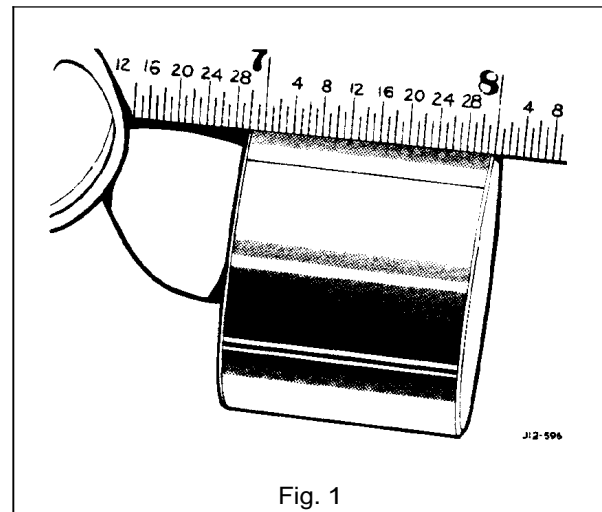

Fig. 1
- Refit the original shims in the valve collar recesses (1 Fig. 1).